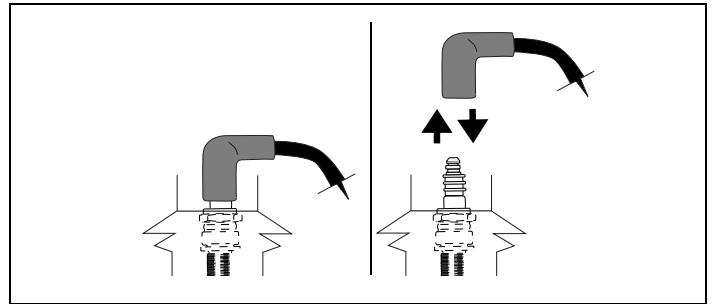
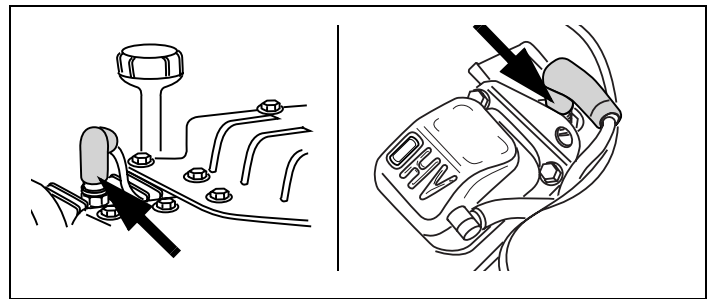

Figure 38. Disconnecting/Connecting Spark Plug
Figure 39. Typical Spark Plug Connection
1. Carefully disconnect spark plug wire and keep it away from spark plug. See Figures 38 and 39. See "G. Avoid Accidental Starts" instructions on page 2. Afterward, continue reading instructions below.
15. Carefully disconnect spark plug wire from grounding post, if provided. See Figures 38 and Figures 39 on page 18. See "G. Avoid Accidental Starts" instructions on page 2. Afterward, continue reading instructions below.
16. Carefully re-connect spark plug wire to spark plug. See Figures 38 and 39 on page 18.